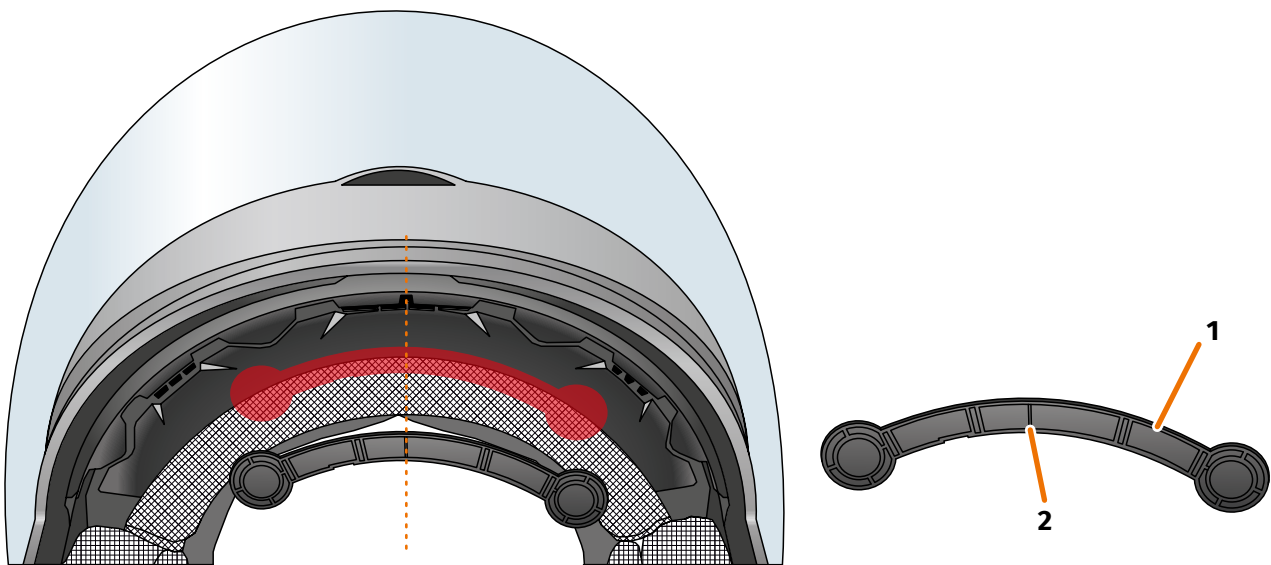

FIGURE 14 // Installing the narrow helmet adapter
8. Place the helmet adapter (FIGURE 14/1) in the forehead section of the helmet, between the inner shell and the outer shell (FIGURE 14/shown in red). There is a mark at the bottom of the helmet adapter (FIGURE 14/2) that should be placed on an imaginary line between the middle of the helmet and the middle of your face (FIGURE 14/dotted line). Make sure the helmet adapter does not collide with the sun visor.